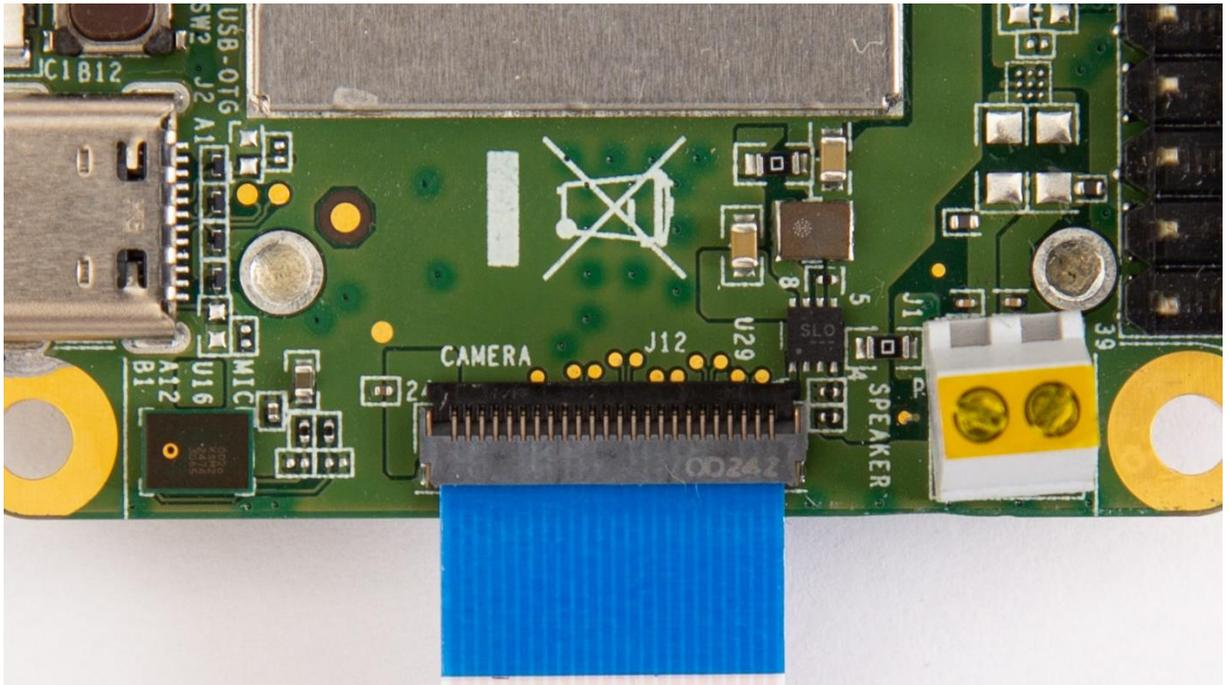

Figure 2. The cable inserted to the board and the latch closed
3. Slide the flex cable into the connector with the contact pins facing toward the board (the blue strip is facing away from the board), as shown in figure 2.